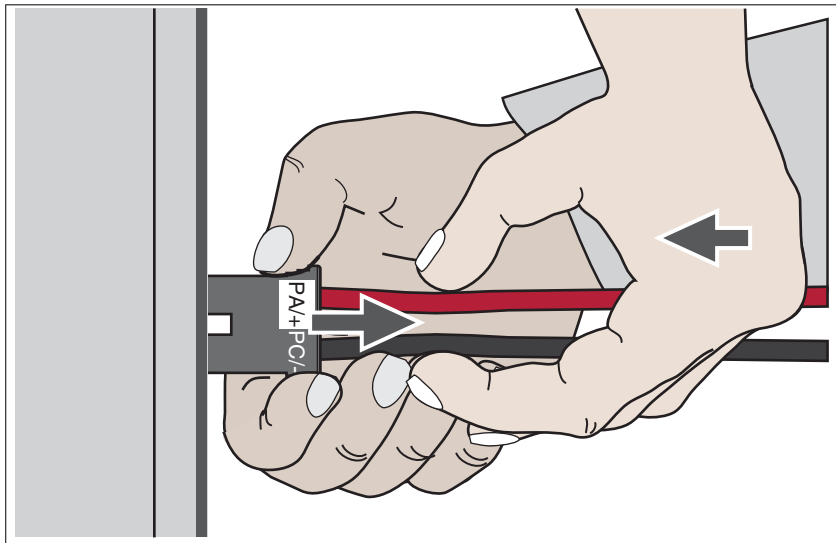

Figure 11: Unlocking the DC bus connector
- ▶ While pushing the wires towards the connector, pull the connector at the connector housing with the other hand. The connector is unlocked and you can remove the DC bus connection cable (see *Figure 11*).